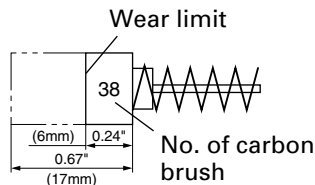

Fig. 20
3. Inspecting the carbon brushes (Fig. 20)
NOTE: Use HITACHI carbon brush No. 38 indicated in Fig. 20.